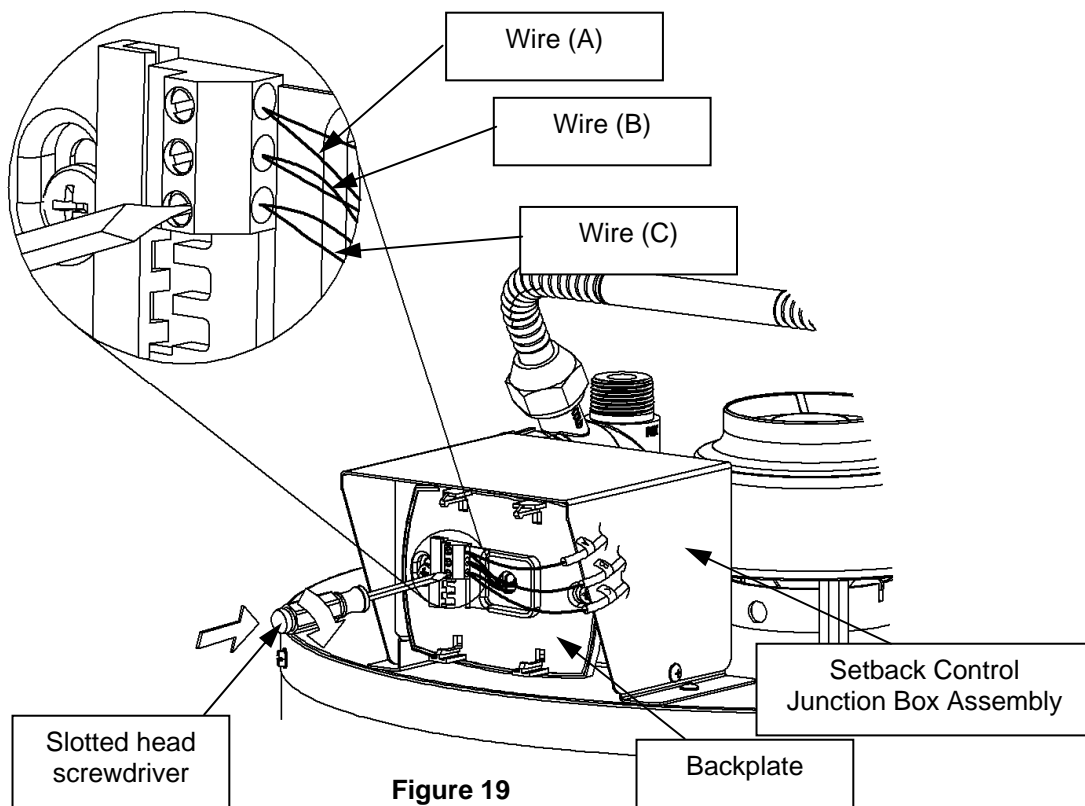

Figure 19
Step 13: Tighten the slotted screw in the bottom terminal location on the backplate (located on the Setback Control Junction Box Assembly). This is shown in Figure 19.